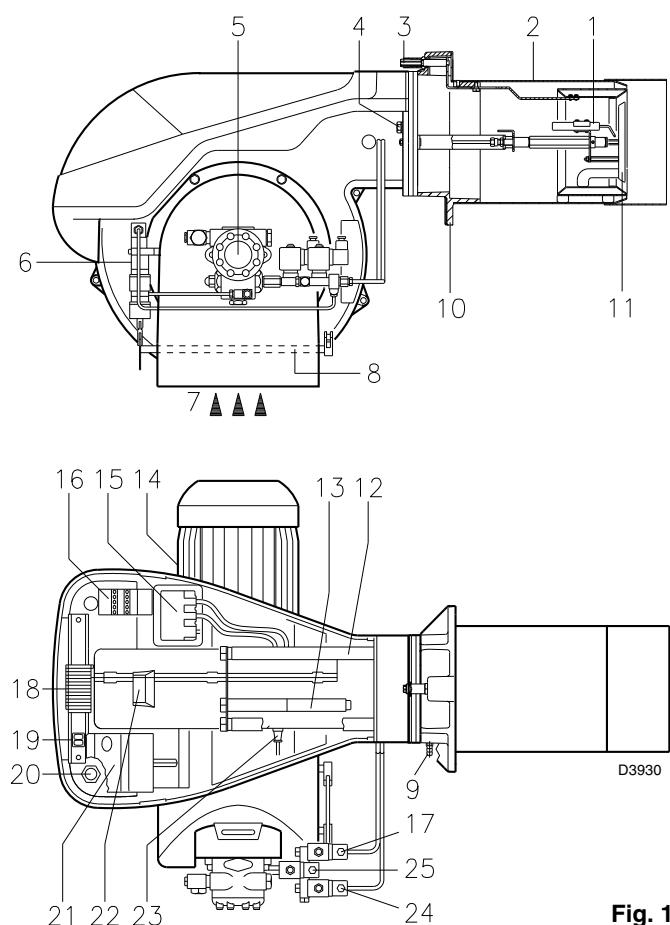

Fig. 1
**Control box lock-out:** if the control box 22)(Fig. 1) pushbutton (red led) lights up, it indicates that the burner is in lock-out.
**Motor trip:** release by pressing the pushbutton on thermal cut-out 17)(Fig. 1).